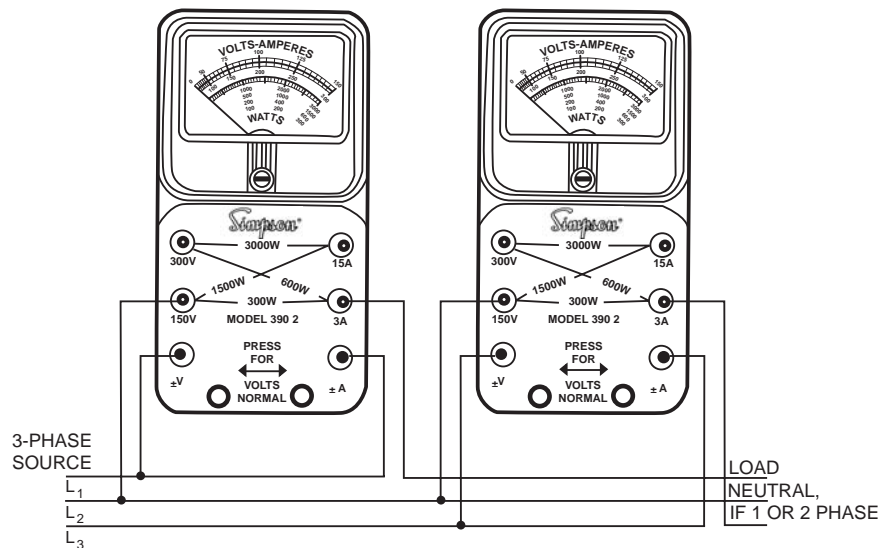

Figure 4-4. Connections for Measurement in Single, Two and Three Phase AC Three-Wire Circuits
9. When testing a 240-VAC line-operated device, make up a 120-240 VAC adapter set as shown in Figure 4-4 on page 13. Be sure the outlet used is correctly wired as discussed in number seven above.
Figure 4-4 shows the connections for measuring power in a single phase, two or three phase, three-wire circuit using two Model 390-2 wattmeters. If a reading is obtained on both meters, the true power is the sum of the two readings. If the pointer of one meter deflects to the left of zero, it means that the power factor is less than 50%, and the connection to the voltage terminals for that meter should be reversed. The reading then obtained should be subtracted from the reading of the other meter. If the power factor is exactly 50%, one meter will indicate zero. If only one Model 390-2 is available, connect it successively in the two positions as shown in Figure 4-4.